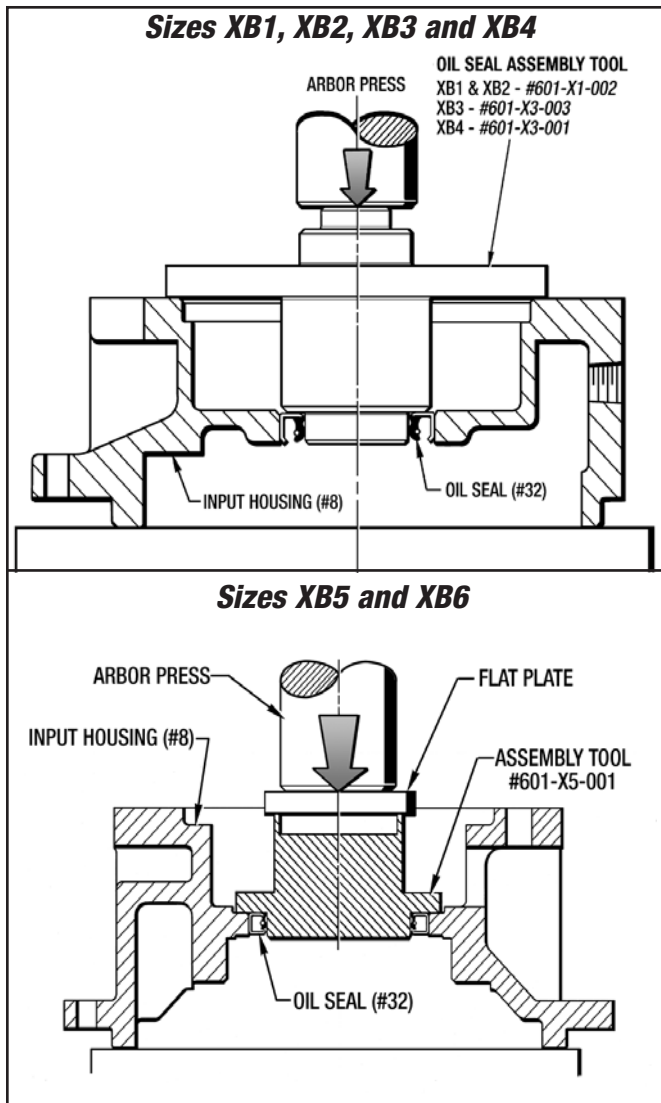

Figure 9.2 - Installing Oil Seal (#32) in the Input Housing
2. Install the Oil Seal (#32) into the Input Housing (#8) with an Arbor Press and the appropriate Assembly Tool as shown in *Figure 9.2*.